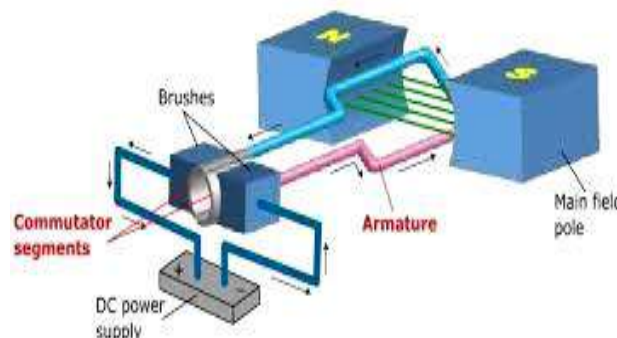

Figure.2.1. Simple loop Motor.
2.1.1. Working principle. A motor works on the principle of Fleming's left-hand rule which states that "whenever a current carrying conductor is placed in a magnetic field, it experiences a mechanical force". When armature windings are connected to a DC supply, an electric current sets up in the winding. Magnetic field may be provided by field winding or by using permanent magnets. The direction of force would have reversed every time when the direction of movement of conductor is reversed in the magnetic field. Hence, commutator is made segmented to achieve unidirectional torque as shown in the figure 2.1.